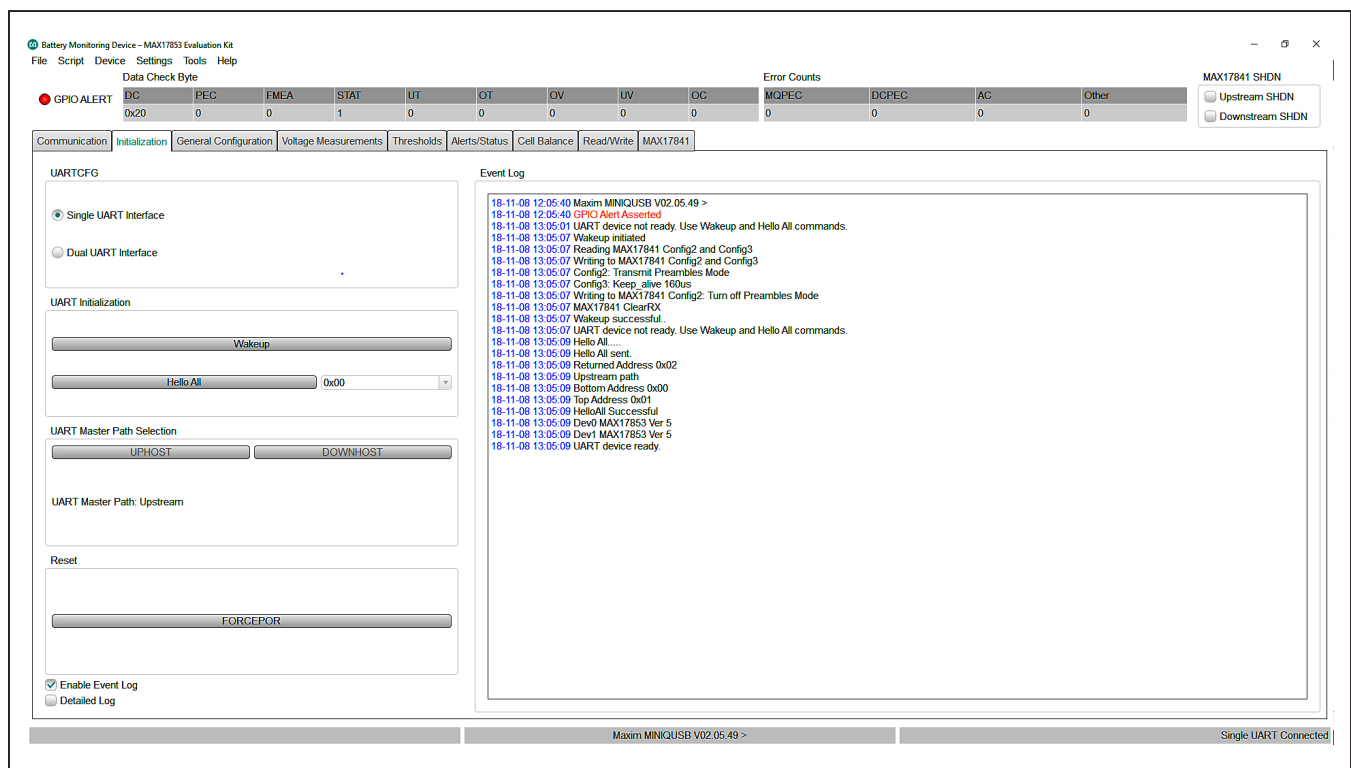
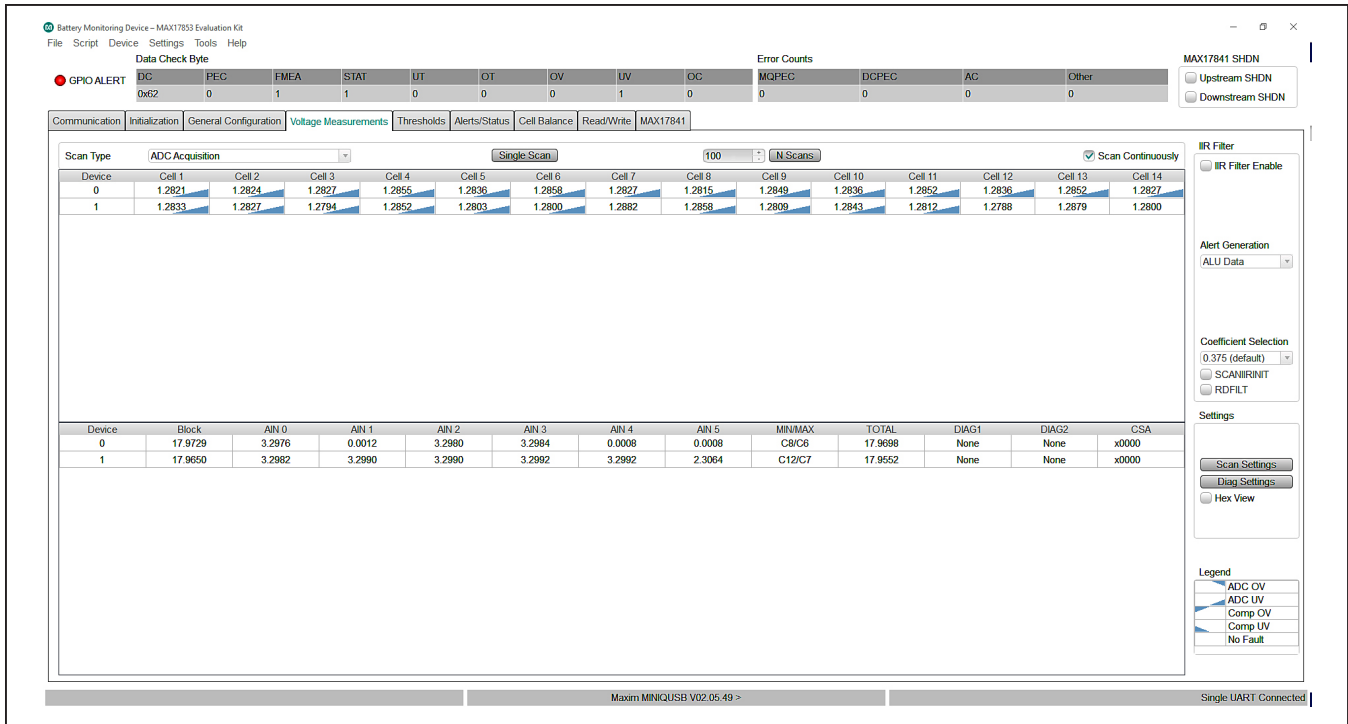
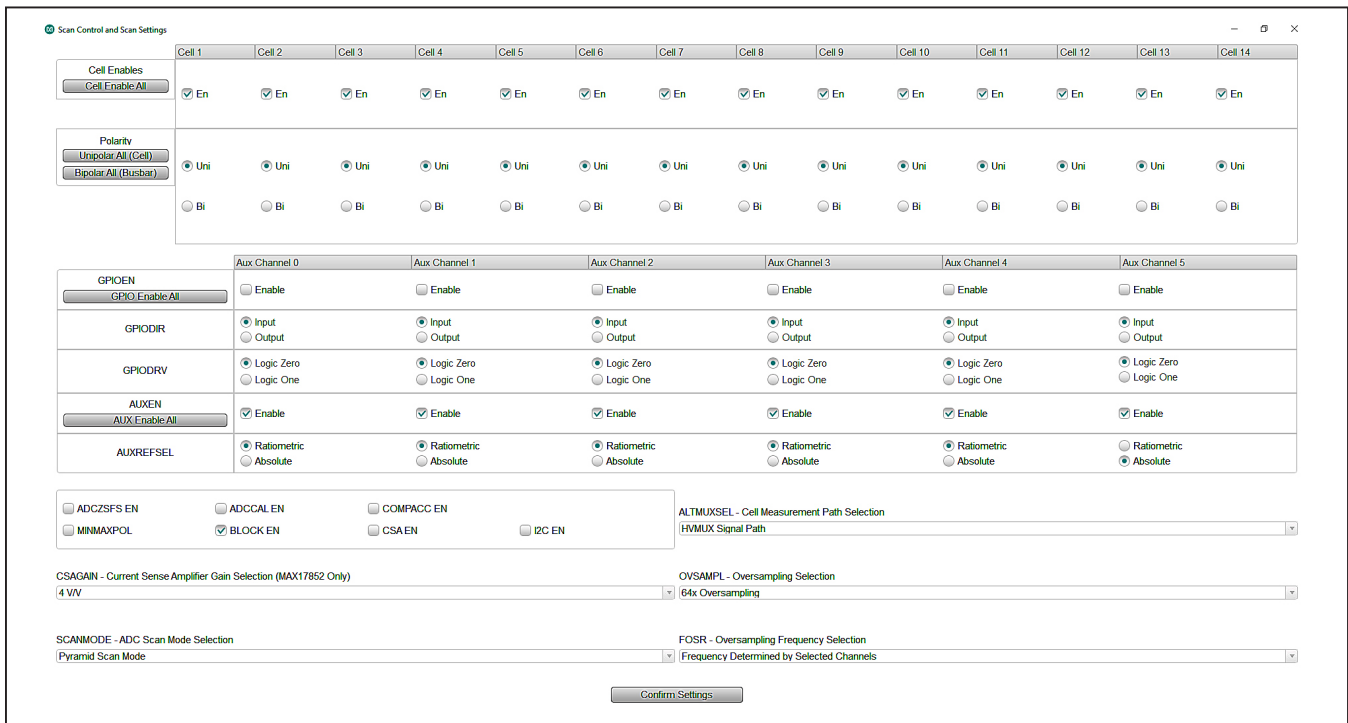
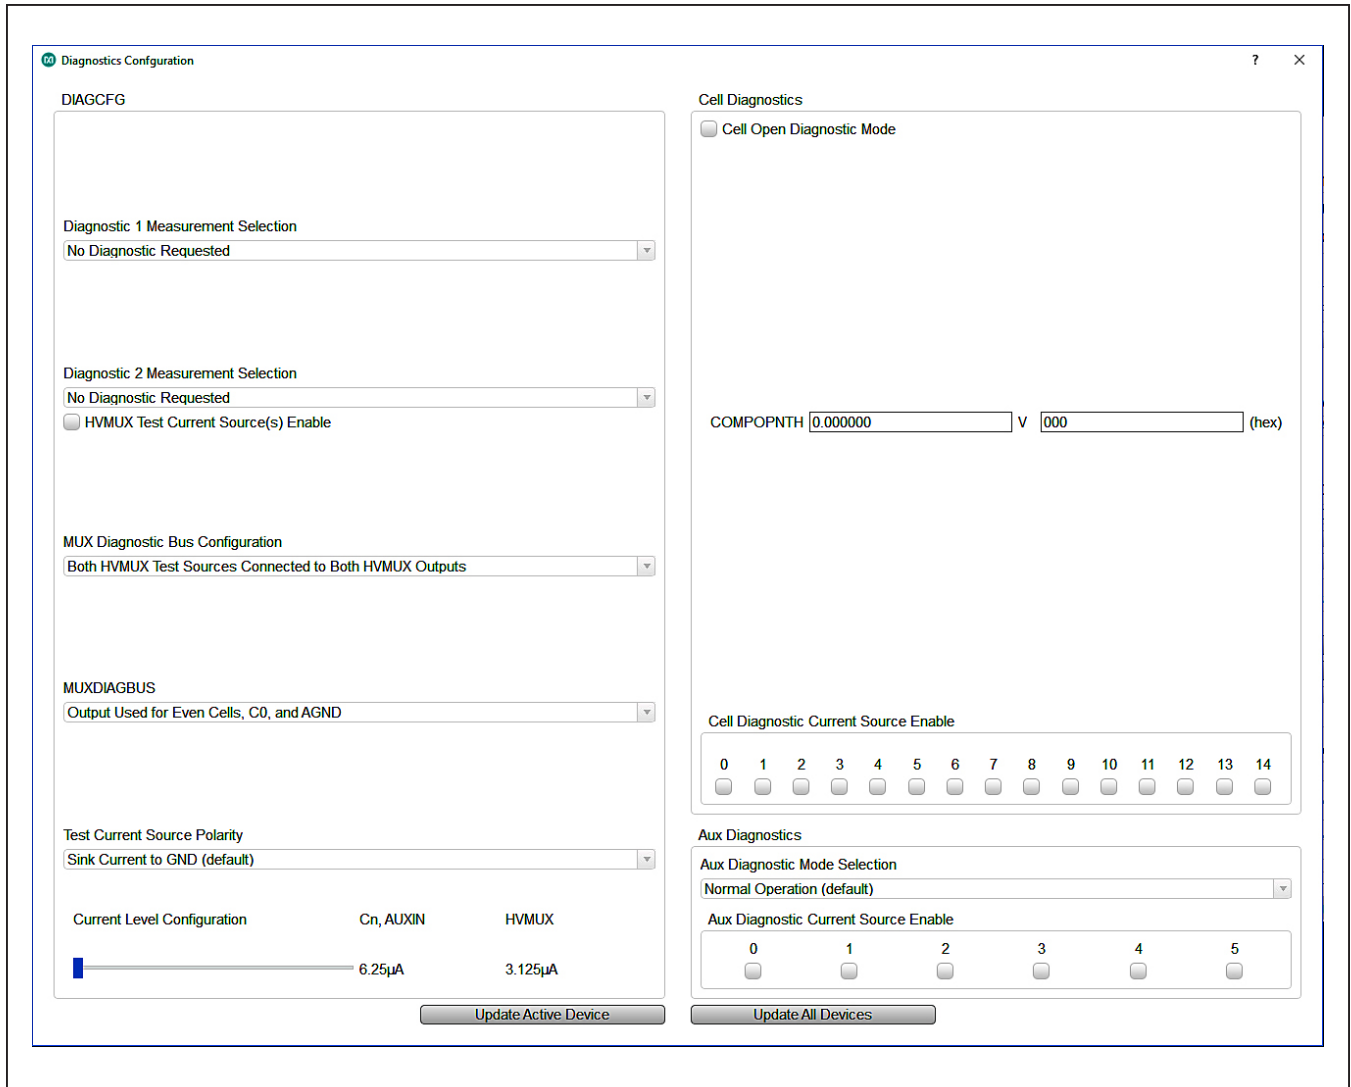

Figure 13. Initialization Tab
Figure 15. Voltage Measurements Tab
Figure 16. Scan Settings Panel
Figure 17. Diagnostic Settings Panel
- 14) Select the **Initialization** tab (Figure 13).
The **Initialization** tab (see Figure 13) is used to initialize the system and assign addresses to each device in the daisy-chain. The correct **Single UART Interface** or **Dual UART Interface** radio button must be selected for the hardwired system. Communication is only established when the wired system aligns with the interface chosen from the **UARTCFG** group box. With the **Dual UART Interface** radio button selected, the user has the option of selecting **UPHOST** or **DOWNHOST**. Further information on UPHOST and DOWNHOST communication is available in the MAX17852 IC data sheet. The **Wakeup** button initiates the communication process and the **Hello All** button assigns the device addresses.
The **Voltage Measurements** tab (see Figure 15) is the user interface for visually monitoring all cell measurement and AUX conversion values in the battery monitoring system. In addition, the **Voltage Measurements** tab can be constructed to display a visual indication of cell ADC OV/UV, comparator OV/UV, and communication alerts.
In the **Voltage Measurements** tab, the **Scan Settings** and **Diag Settings** buttons in the **Settings** group box on the right side of the GUI open into individual settings panels (see Figure 16 and Figure 17).
Before running scripts, follow the Quick Start \(Single UART\) section. **HelloAll Successful** and **UART device ready** response must be displayed in the **Event Log** on the **Initialization** tab (Figure 13). Set the PCB resistor ladder DIP switches (SW1, SW2) to the ON position (closed). Verify P+B14 and B0P- jumpers are installed. Select the **Voltage Measurements** tab (Figure 15) and click on the **Scan Settings** button in the **Settings** group box to open the **Scan Settings** panel (Figure 16). Select **Cell Enable All** and click **Confirm Settings** at the bottom of the panel. Back in the **Voltage Measurements** tab, click on the **Scan Continuously** checkbox. Figure 26 shows a sample script that programs the cell overvoltage to 1.099V and the undervoltage to 0.9V.
The following procedure describes how to use the GUI and EV kit to make **Cell Voltage** measurements and observe measurement and comparator OV/UV alerts in the **Voltage Measurements** tab (Figure 15).
- 1) Set up hardware and run GUI according to the Quick Start \(Single UART\) section. **HelloAll Successful** and **UART device ready** response must be displayed in the **Event Log** on the **Initialization** tab (Figure 13). Be sure to set the supply voltage to 18.0V for this procedure.
- 3) Select the **Voltage Measurements** tab (Figure 15) and click on the **Scan Settings** button in the **Settings** group box to open the **Scan Settings** panel (Figure 16). First click the **Cell Enable All**, **Unipolar All (Cell)**, **BLOCK EN** checkboxes, and select **64x OVSAMPL** from the OVSAMPL a drop-down list at the bottom of the panel, and then click the **Confirm Settings** button.
- 4) Select the **Voltage Measurements** tab (Figure 15) and in the upper left corner, set the **Scan Type** to **ADC and Comparator Acquisition**, and then select the **Scan Continuously** checkbox. Observe that cell voltage levels are approximately equal in value. At this point, the MAX17852 is continuously reading the voltages across each of the 2kΩ resistors in the resistor ladder. Increasing the power-supply voltage increases the voltage across each of the 2kΩ resistors in the ladder.
- 7) Select the **Voltage Measurements** tab (Figure 15). Verify that voltage measurements are approximately 1.28V and no OV/UV voltage measurements or OV/UV comparator measurements are indicated. Slowly increase the power-supply voltage from 18.0V to 22.0V. Verify that OV voltage and comparator measurements are detected at the user-programmed OV thresholds by comparing the triangular indicator with the **Legend** on the lower right side of the window. The UV voltage and comparator measurements can be verified similarly by decreasing the supply voltage from 18.0V to 14.0V.
- 1) From the **Voltage Measurements** tab (Figure 15), in the **IIR Filter** group box, click on the **IIR Filter Enable** checkbox.
- 3) To see the dynamic effect of the IIR filter, set the **OVSAMPL** drop-down list in the **Scan Settings** panel (Figure 16) to **Single Acquisition**, and click the **Confirm Settings** button.